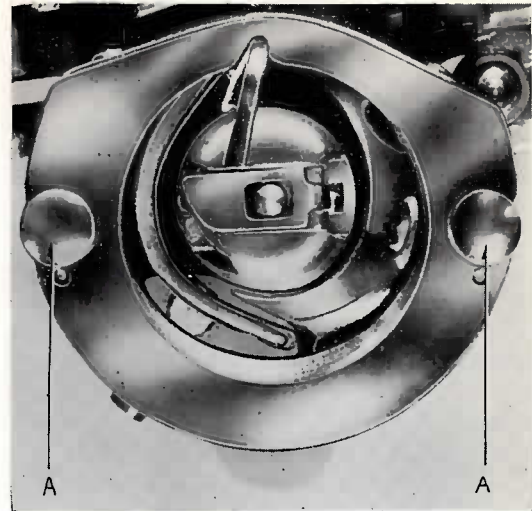

Fig. 24
- 2) Snap-out knob(A) on both sides of shuttle race release to outside, then take out the outside-ring and the shuttle hook with your fingers. (Fig. 24).